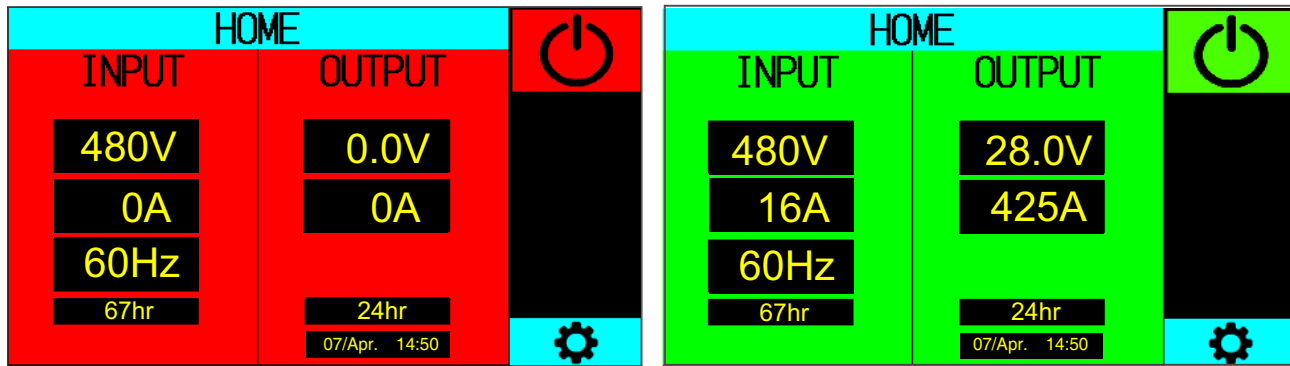

Figure 12. Home Screen - OFF and ON
- The Input readings column turns green and displays the source power readings. Refer to Figure 12.
- The Output readings column turns green and displays the Output power readings. Refer to Figure 12.
During normal operation, the control panel will display the Home Screen, Figure 12. Select selectable entities by touch.